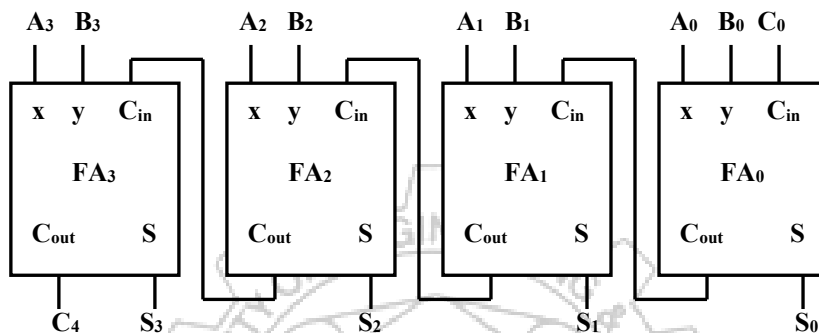

Figure 4.1: 4-bit Parallel Adder
A 4-bit parallel adder can add two 4-bit values. One way of constructing such an adder is to simply cascade four full adders as shown in figure 4.1. Here $A_3A_2A_1A_0$ and $B_3B_2B_1B_0$ are two 4-bit values to be added. FA3, FA2, FA1 and FA0 are the four full adders that are cascaded in parallel to provide the desired result. $S_3S_2S_1S_0$ is the final 4-bit sum. C_0 is the external carry input (if any) to the circuit and C_4 is the final carry generated by the 4-bit addition.
3. Make connections among these full adders as shown in figure 4.1.